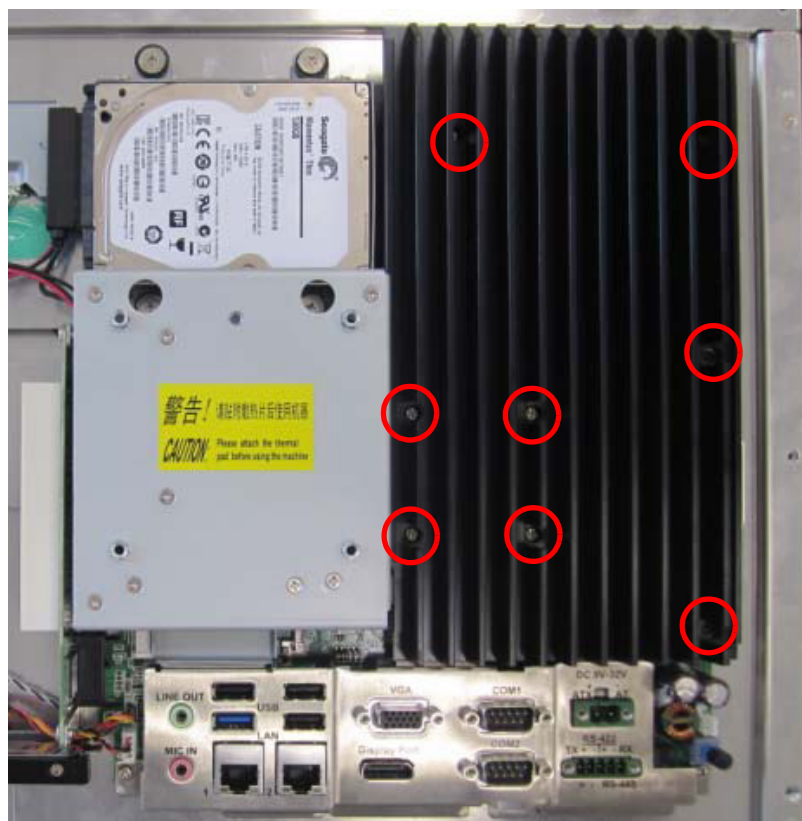

Figure 2.8
2. Remove the eight screws on the heatsink (circled in red in Fig. 2.8) and remove the heatsink.